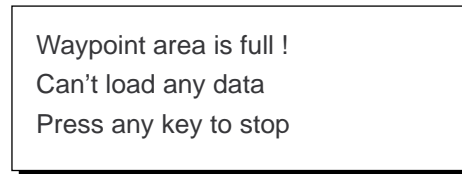

Figure 8-19
- 6) Operate the YEOMAN to output data. When data is loaded, the cursor automatically shifts to "Stop". Waypoints are loaded into empty areas. When the waypoint area becomes full, the message shown in Figure 8-19 appears.